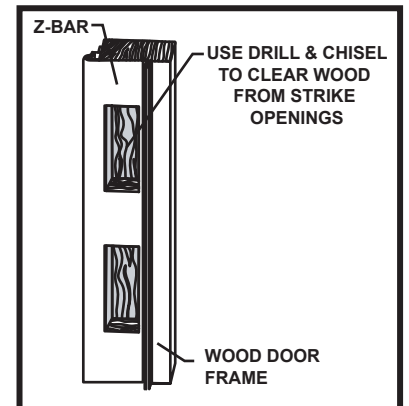

FIGURE 7
A. Using a drill and chisel, clear the wood from the strike openings behind the "Z" bar 3/4" deep. **See Fig. 7.**